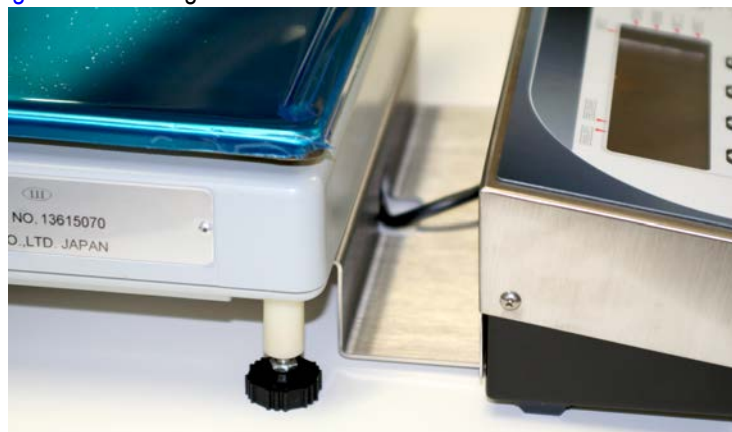

Figure 2-20. Indicator Attached to the Scale Base (DIGI S-YC Scale Base Shown)
4. Attach the indicator to the bracket using the second set of screws provided and screw white threaded standoffs into indicator base as in Figure 2-20 if using the S-YC scale base and then screw feet into the bottom of the standoffs.